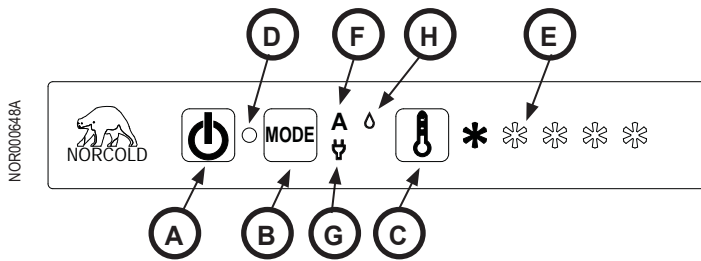

Fig. 14 - N7X and N8X user interface (control) locations
Touch the Power ON / OFF button (See Fig. 14, A) to turn on the refrigerator.
Touch and hold the Mode button (See Fig. 14, B) to scroll through the available modes of operation of the refrigerator, one after the other. When the desired mode indicator(s) comes on, release the Mode button.
- **AUTO Mode:** The AUTO Mode indicator (See Fig. 14, F) comes on and the refrigerator controls automatically select the most efficient energy source that is available.
- If available, the refrigerator controls select AC electric as the power choice and the AC mode indicator (See Fig. 14, G) comes on also.
- If AC electric is not available, the controls select gas as the power choice and the gas mode indicator (See Fig. 14, H) comes on also.
Touch and release the Temperature Set button (See Fig. 14, C) to view the current temperature setting.
There are five (5) temperature setting indicators (See Fig. 14, E).
- When only one (1) temperature setting indicator is on, the temperature setting is the warmest.
- When all five (5) temperature setting indicators are on, the temperature setting is the coldest.
Should none of the heat source inputs be available, the power ON / indicator light (See Fig. 14, D) will be solid RED.